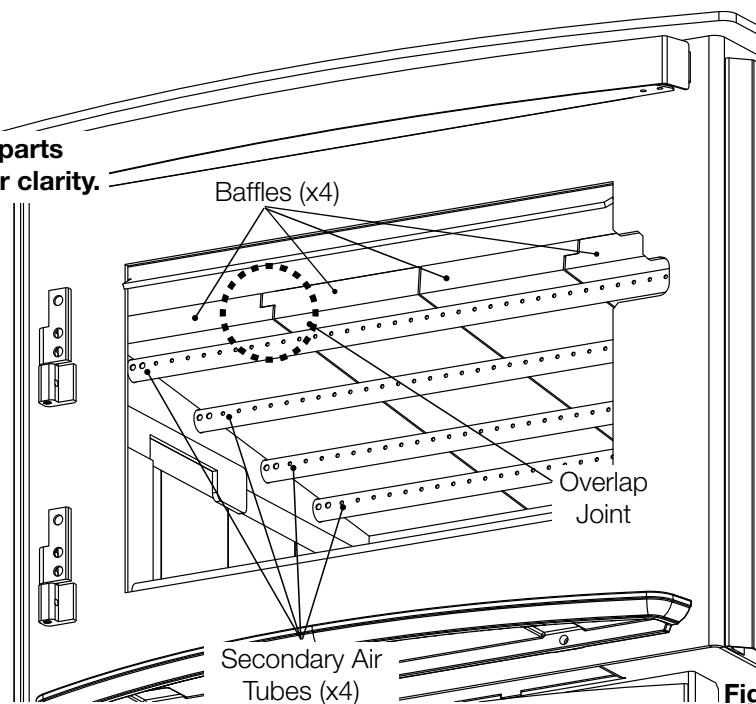

Fig. 4-4
- Carefully pivot four "E" fibre baffles up onto the secondary air tubes as illustrated (**Fig. 4-4**). Ensure that the baffles are pushed all the way to the rear of the firebox, leaving a minimum of a 1 inch gap along the front. This will allow the flue gases to escape the firebox. Ensure overlap joint is tight.